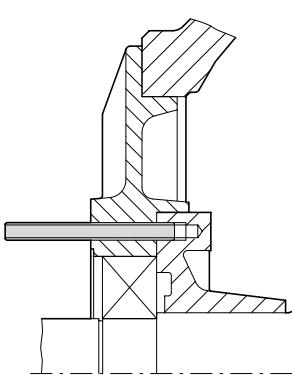

Figure 30: Screwing in a threaded bolt
- For easier fitting, screw a threaded bolt in one of the tapped blind holes of the inner bearing cover (→ Fig. 30).
① Greasing channel
- Screw in at least one bearing cover fastening screw before removing the threaded bolt (→ Fig. 30).